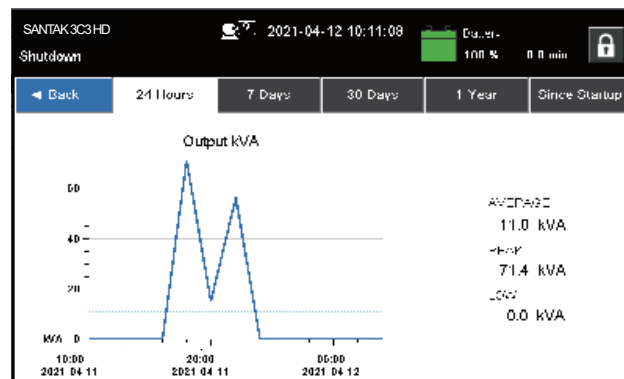

Figure 6-6: Output kVA Screen from Home Screen
- ① Allows selection of alternate language
- ② See Figure 6-6 Output kVA Screen from Home Screen
Touching the LOAD kVA button displays the Output kVA screen shown in Figure 6-6.